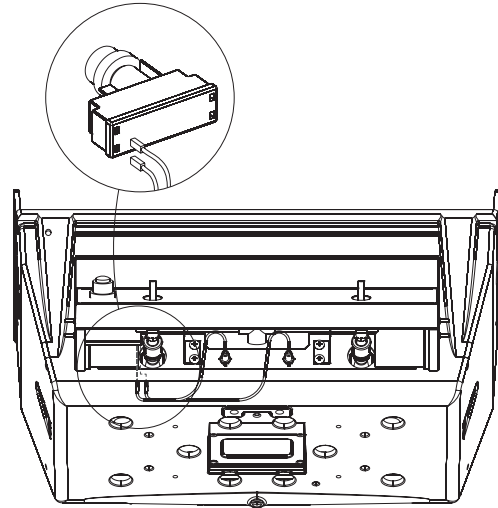

Figure 30
- Remove ignitor from the control panel by unscrewing the ignitor button and nut. Attach ignitor wires to terminals on the ignitor. **See Figure 30.**